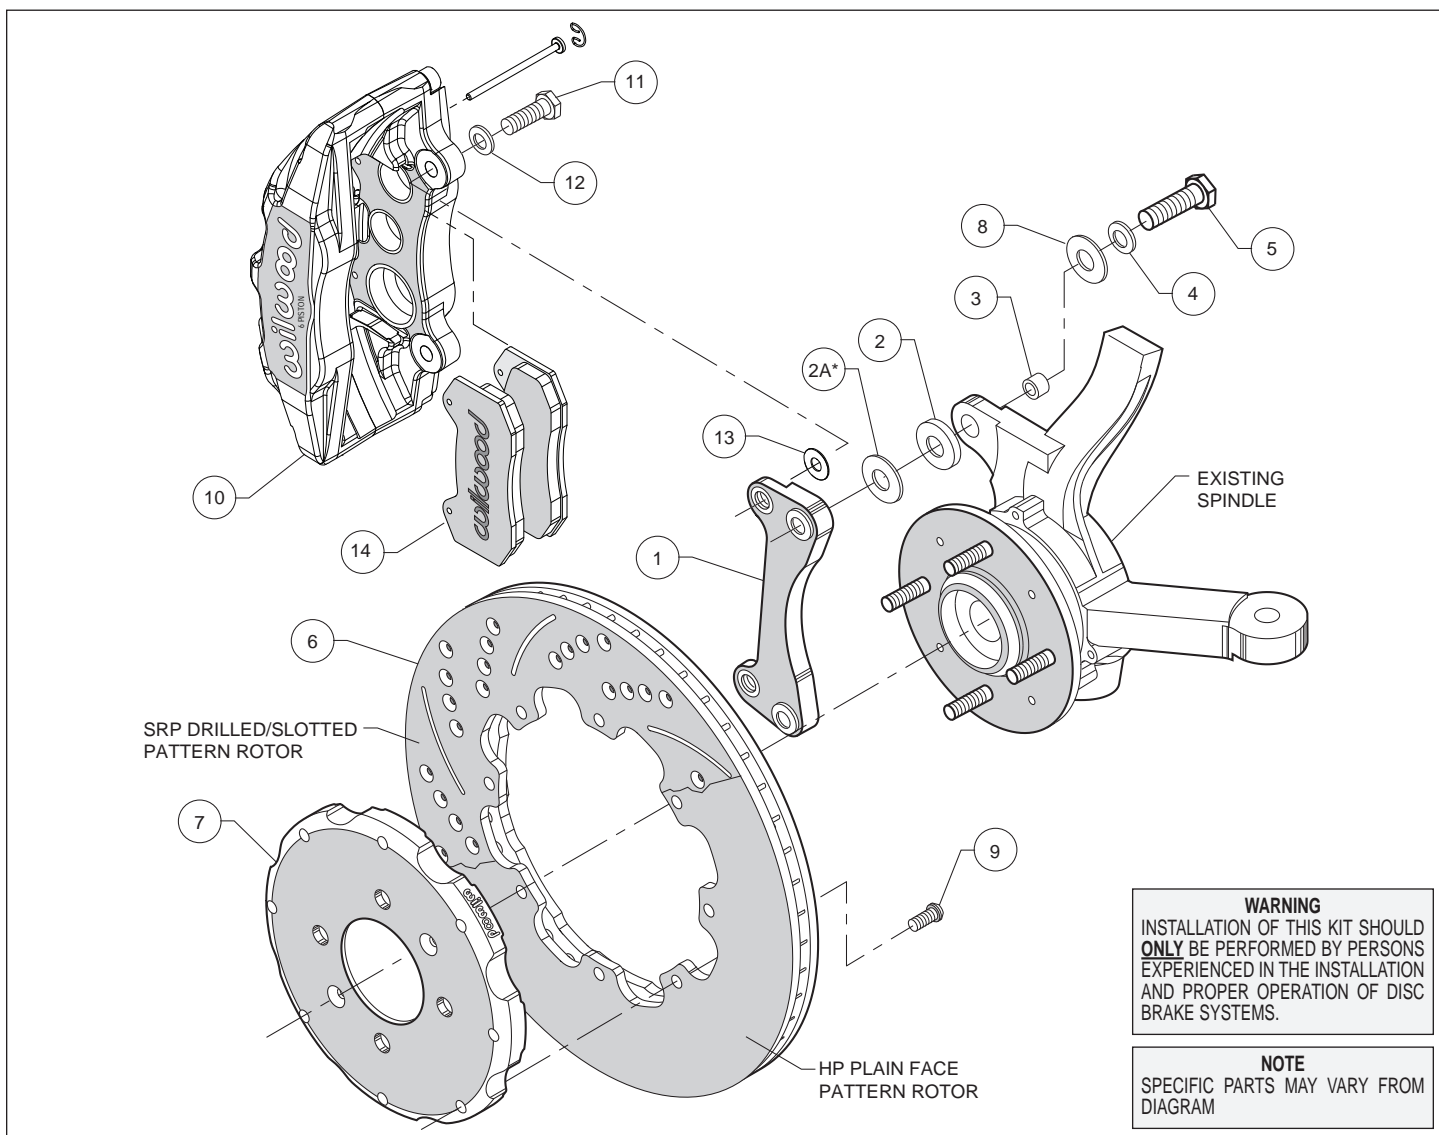

Figure 1. Typical Installation Configuration, Left Hand Application Shown
**Assembly Instructions** (numbers in parenthesis refer to the parts list and Figure 1 on the preceding pages): **CAUTION:** All mounting bolts must fully engage insert nuts. Be sure to check that all bolts are either flush or protruding through flanged side of insert nut after shimming.
- Insert one sleeve (3) each into the holes on the top and bottom of the spindle "ears" where the OEM caliper bracket was removed. Apply red *Loctite*® 271 to the mounting bolt threads (5) before installation of the caliper mounting bracket (1). Install the bracket with the flanged heads of the clinch nuts facing outboard, as shown in Figure 1. Slide bolt (5) through washer (4) and shim (8) into the previously installed sleeve (3) from the backside of the spindle. Position .125 thick spacer (2) [and (2A) for 2001 Honda Civic only] between the spindle and the bracket. Torque bolts to 60 ft-lb..
- With the larger I.D. side of the rotor (6) facing away from the hat (7), attach rotor (6) to hat (7) using bolts (9) as shown in Figure 1. Using an alternating sequence, remove bolts (9) one at a time, apply red *Loctite*® 271 to the threads, and torque to 25 ft-lb.
- Remove the two pad retaining pins from the caliper (10) by carefully popping out the pin retaining clips and sliding out the pins. Insert the brake pads (14) into the caliper from the bottom, Figure 1, with the friction material facing the rotor. Secure the brake pads in place with the pad retaining pins and clips. Reinstall the caliper onto the caliper mounting bracket. Apply red *Loctite*® 271 to bolt threads (11), and torque to 40 ft-lb.